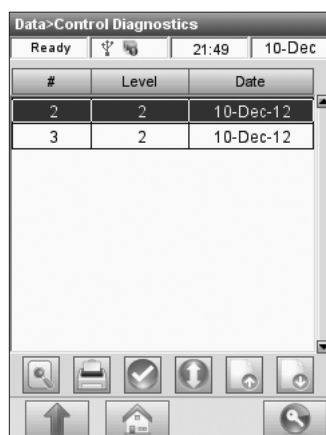
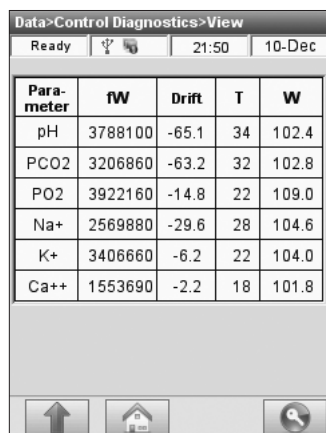

Fig. 6-22 Select Measurement
Fig. 6-23 Control Diagnostics
3. In the **<Data - Control Diagnostics>** screen (Fig. 6-22), select the desired measurement and press the **<View>** button  to display the measurement results (Fig. 6-23).
5. To print individual results, highlight the desired measurement (Fig. 6-22).